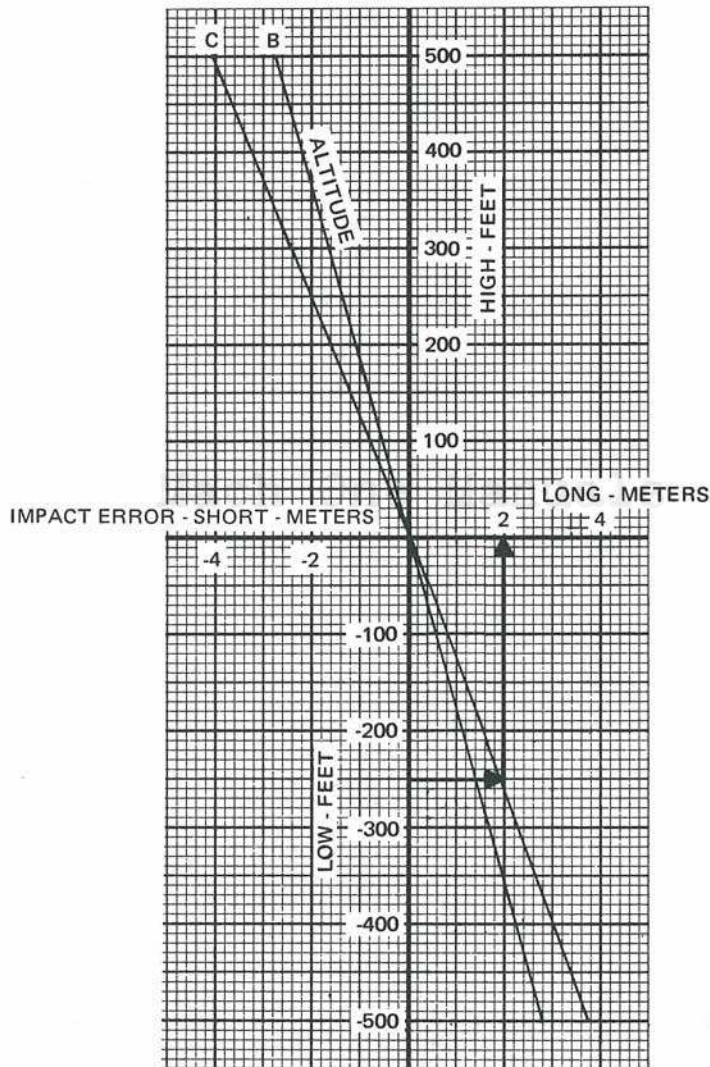

Figure 7-6
The Altitude Error Chart, figure 7-6, shows the effect a deviation from the selected altitude has on the impact point. Only some altitudes are shown to indicate the small miss distances due to altitude.
a. Enter the Altitude Error Chart (figure 7-6) with 250 feet, the distance below the selected altitude.